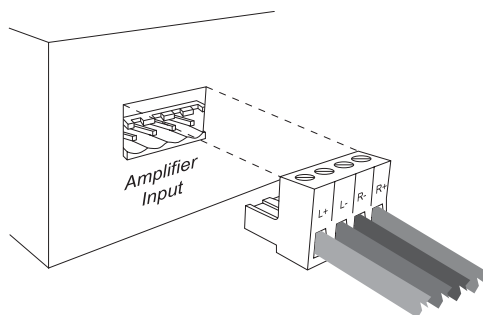

Figure 2
4. Install the connectors to the SS4-50 / SS6-50 (Figure 2).